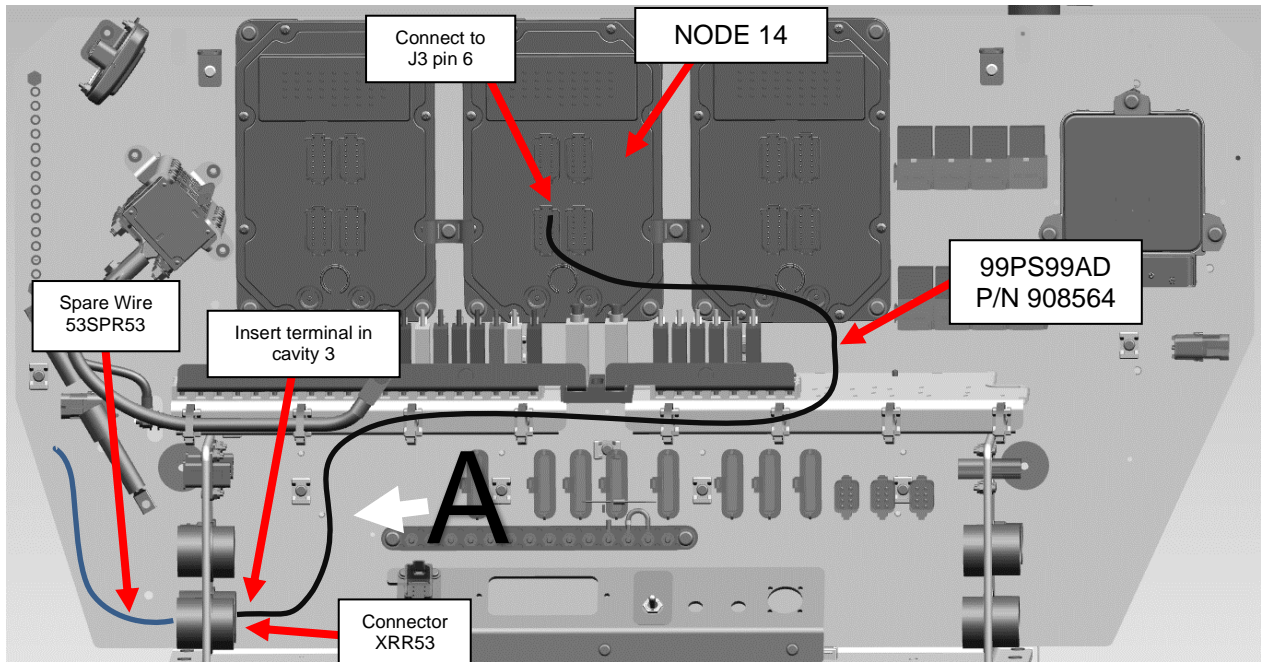
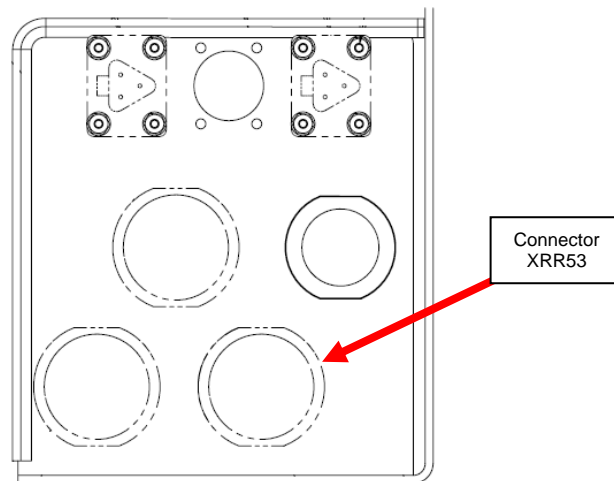

Figure 11 – Rear Panel
Figure 12 – View A - Connector XRR53 Location
14. Strip the insulation from the end of the wire and crimp terminal P/N 034793; Insert in connector XRR53_SHR, location 3 as shown in Figure 11& Figure 12.
15. Route wire 99PS99AD from Module Node 14 to connector XRR53_SHR as shown in Figure 11.